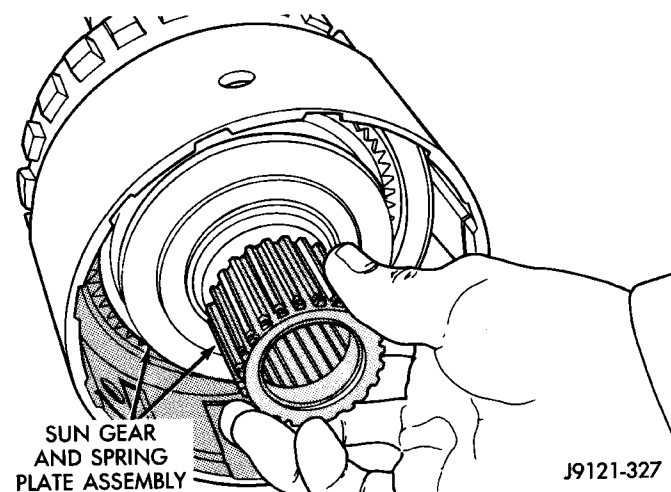

Fig. 222 Sun Gear Installation
(14) Install assembled sun gear, spring plate and thrust bearing (Fig. 222). Be sure sun gear and thrust bearing are fully seated before proceeding.